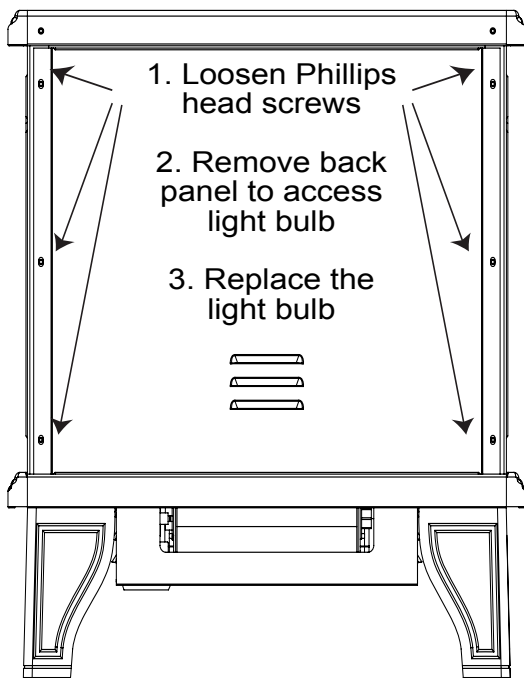

Fig. 5
3. Loosen the screws holding the stove back panel to the main body of stove (see Fig 5).